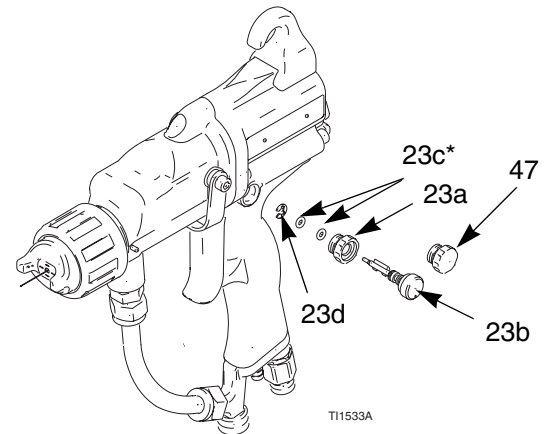

Fig. 19. Atomizing Air Valve
2. Remove the atomizing air restrictor valve (23) . Inspect the o-ring (23c*). Replace if necessary. See FIG. 19..
3. Install a new atomizing air restrictor valve (23), or disassemble and replace parts individually. The valve protrusion must be oriented to clear the air valve (21) shaft.